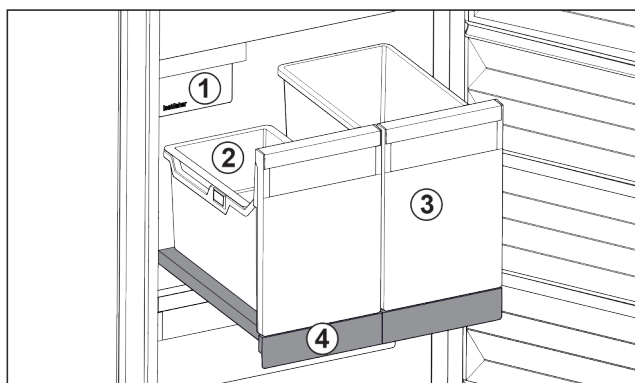

Fig. 99 Pull-out board with IceTower
(2) Hang-on tray for ice cubes
(4) Pull-out board
There are two high (IceTower) containers on the pull-out board. Ice cubes from the IceMaker are collected and stored in the Fig. 99 (2) container. The container Fig. 99 (3) is suitable for storing tall foodstuffs or beverages such as pizzas or alcoholic drinks.